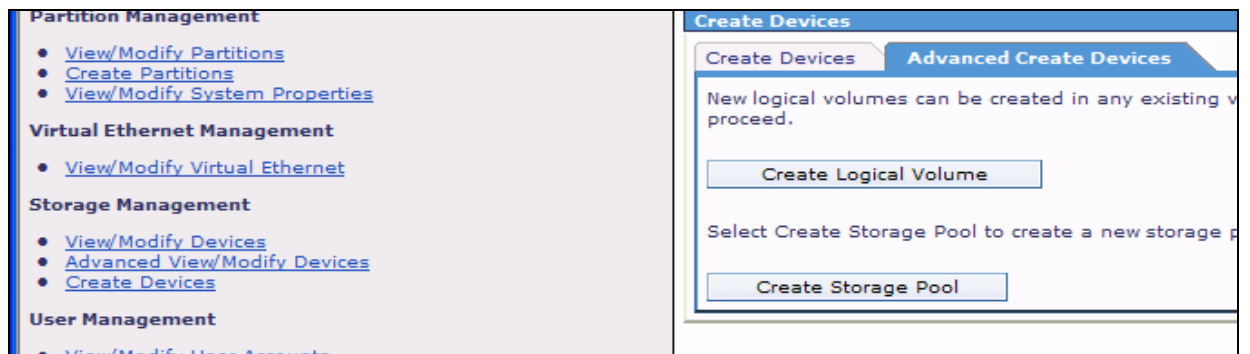

Figure 45. Creating a logical volume
1. From the left navigation, click **Create Devices** under Storage Management. Click **Advanced Create Devices** from the right panel and click **Create Storage Pool** (see Figure 45).